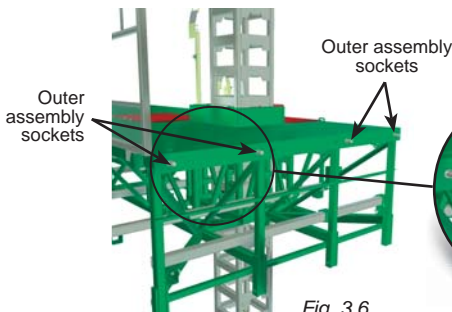

Fig. 3.6
- 4- Assemble the top part of the bridge to the other bridge or to the motorized unit using four 1" x 2" long (GR5 UNC) bolt and nut assemblies through the **four outer assembly sockets** (fig. 3.6) in the front and back. **Do not tighten the bolt and nut assemblies yet.**
- 5- Lift another bridge and align it carefully with the bridge it must be attached to. Assemble the top part of the bridge to the other bridge using four 1" x 2" long (GR5 UNC) bolt and nut assemblies through the **four outer assembly sockets** (fig. 3.6, p. 35) in the front and back. **Do not tighten the bolt and nut assemblies yet.**